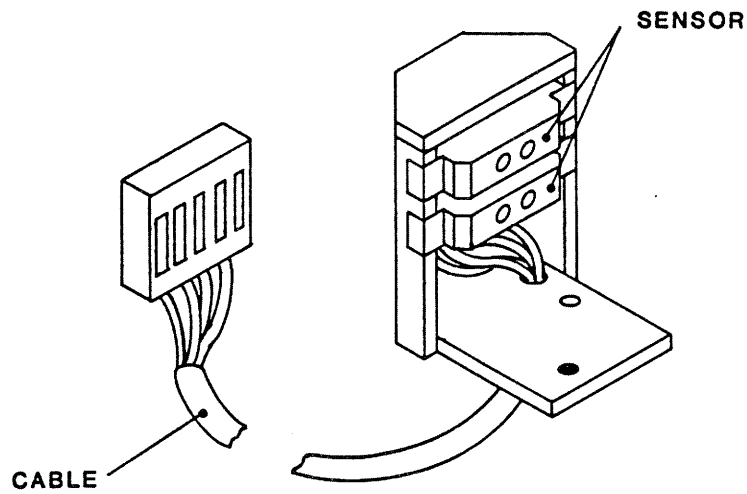

Figure 4-21 BOT/EOT Sensor Assembly
4.3.25 BOT/EOT SENSOR ASSEMBLY (Figure 4-21)